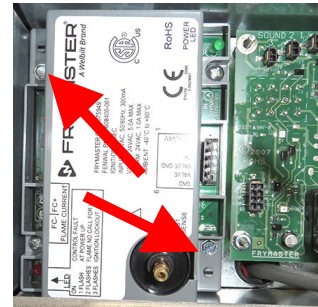

Figure 11
14. Insert and attach the left module as shown with two screws (one in the upper left corner and one in the lower right corner) (see Figure 11).